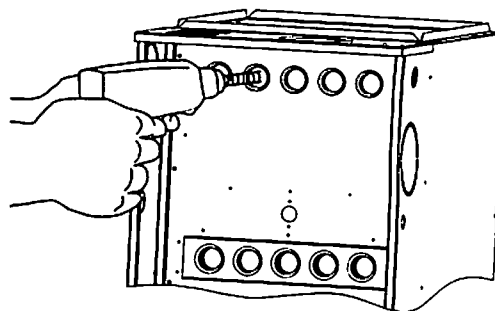

Fig. 34 - Cleaning Heat Exchanger Cell
- (2.) Insert brush end of cable into the outlet opening of cell and slowly rotate with drill. **DO NOT** force cable. Gradually insert cable into upper pass of cell. (See Fig. 34.)